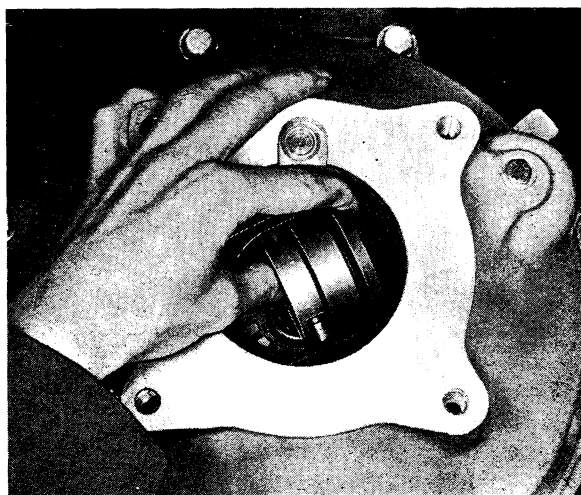

Fig. 4-3. Removing release bearing
3. Remove the release bearing. See Fig. 4-3. Disconnect the wire from the release fork. Slacken the wire sleeve from the bracket.